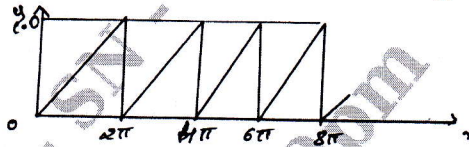

Fig Q2(b)
b. Find the Fourier series for the saw tooth wave as shown in Fig Q2(b)